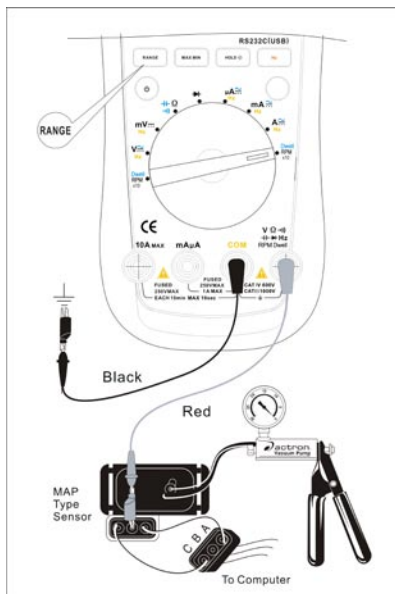

Figure 25
4. Absolute Pressure (MAP) and Baro Sensor (see figure 25)
- (1) Connect the DC voltage type MAP sensor in the DC voltage testing method and set the rotary switch to **DCV**.
- (2) Connect the frequency type MAP sensor in the RPMx10 testing method and set the meter to the number of cylinders in the automobile.
- (3) Taking 4 cylinders (4CYL) for example, connect the black test lead probe of the meter to the ground terminal (i.e. ground strap connection) and connect the red one as illustrated in figure 25.
- (4) Turn on the ignition key but do not start the engine.
- (1) Connect the DC voltage type MAF sensor in the DC voltage testing method and set the rotary switch to DCV. Connect the frequency type MAF sensor in the RPM testing method and set the meter to the number of cylinders in the automobile. Now take 4 cylinders (4CYL) for example.
- (2) Connect the black test lead probe of the meter to the ground terminal (i.e. ground strap connection) and connect the red one as illustrated in figure 25.
- (3) Turn on the ignition key but do not start the engine.